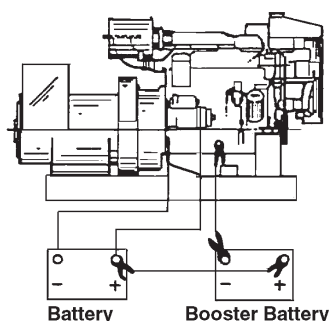

Figure 7: *Booster Battery Connections*
4. Then, connect negative (-) terminal of booster battery to ground on the engine block (see Figure 7).